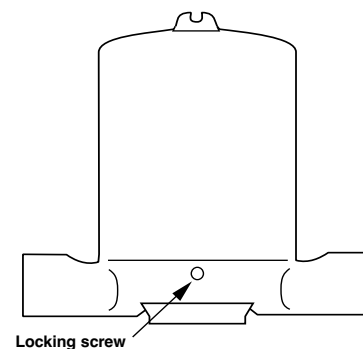

Figure 2
Most mechanical control switch housings are designed to allow 360° positioning of the cable entries by loosening the set screw(s). See **figure 2**. On high temperature applications (above 120° C [250° F]), high temperature wire should be used between control and first junction box located in a cooler area.
- ① All models are factory set at minimum differential unless otherwise specified.
- ② To maintain maximum differential, nozzle length "L" (**Fig. 2**) must not exceed: 64 mm (2.50") model T62 threaded; or 89 mm (3.50") model T62 flanged.
- ③ Dimensions given are approximate and will vary slightly with each unit.
- ④ Consult factory for differentials of models not shown.